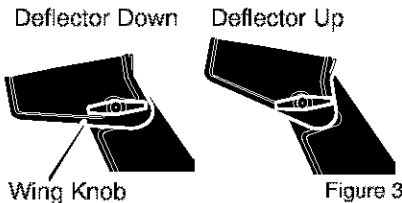

Figure 3
2. Loosen the **wing knob** on the chute deflector and move the deflector to set the distance. Move the deflector (**Up**) for more distance, (**Down**) for less distance. Then tighten the **wing knob** (See Figure 3).